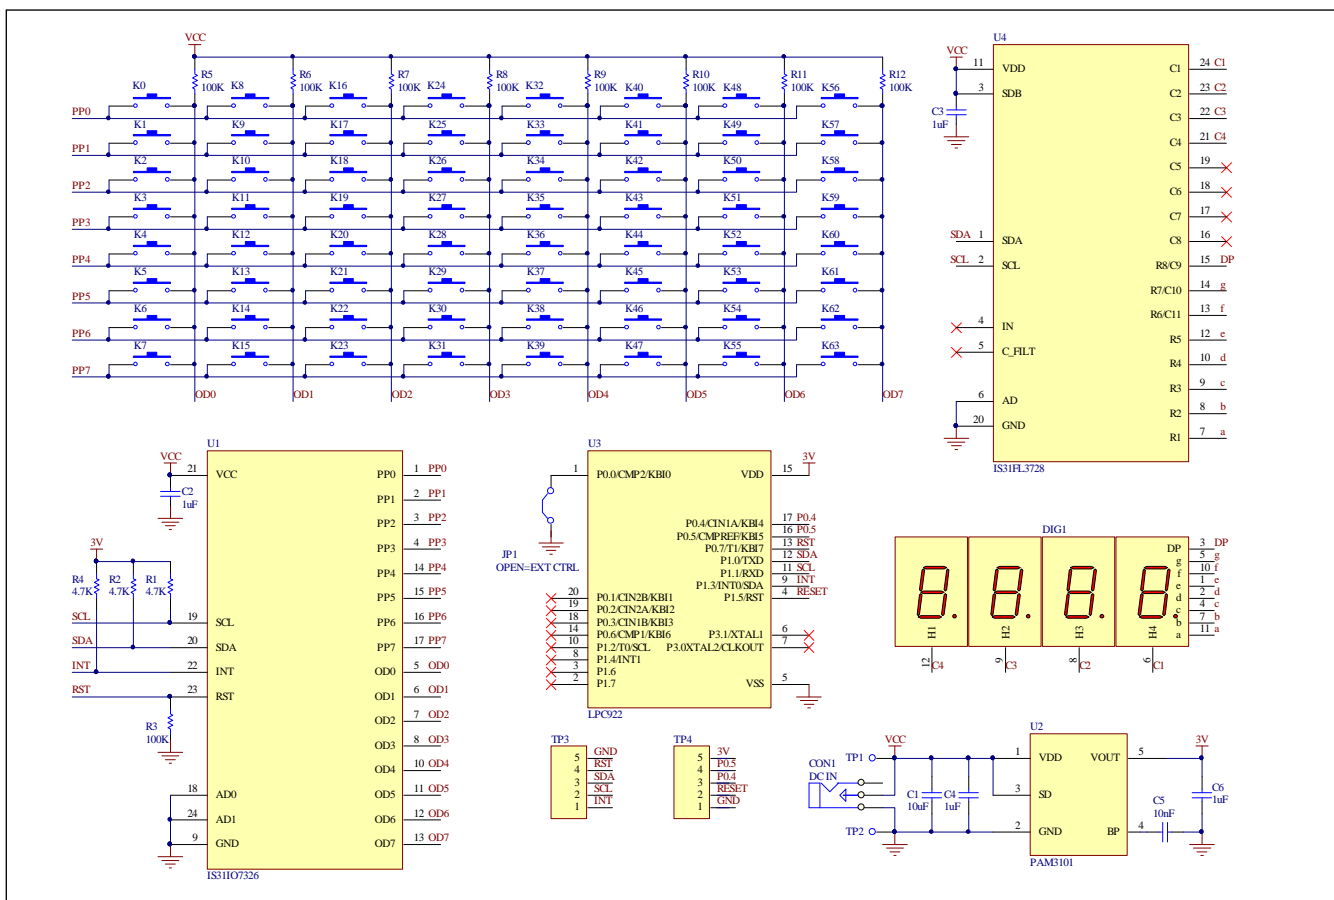

Figure 2: IS31I07326 Application Schematic
*Table 2: Bill of Materials, refer to Figure 2 above.*